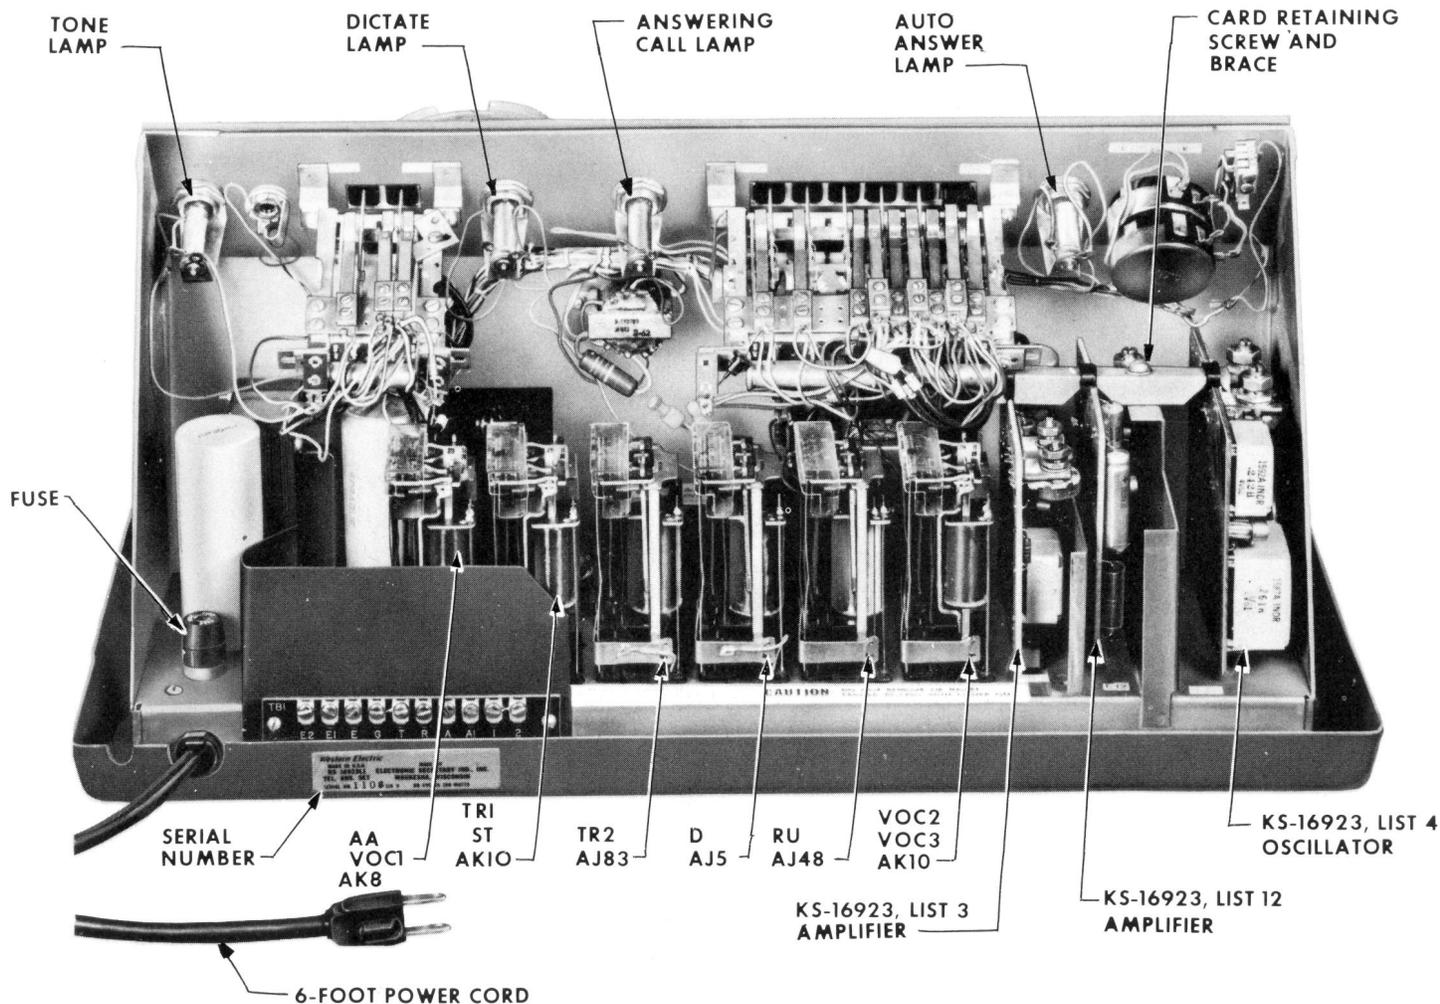

Fig. 3 — KS-16923, List 1 Telephone Answering Set, Rear Panel Removed
3. REPLACEMENT OF KS-16923, LIST 4 OSCILLATOR, KS-16923, LIST 3, AND LIST 12 AMPLIFIERS (FIG. 3)
6. LAMP CAPS AND LAMPS (FIG. 3)
- (1) To replace cap:
- (2) To replace lamp:
7. RELAYS (FIG. 3)